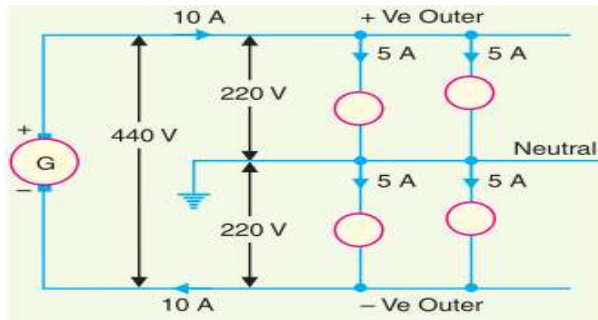

Fig.1.
1. If the loads applied on both sides of the neutral are equal then, the current in the neutral wire will be zero as shown in Fig.1. So, the potential of the neutral will be exactly half-way between the outers.